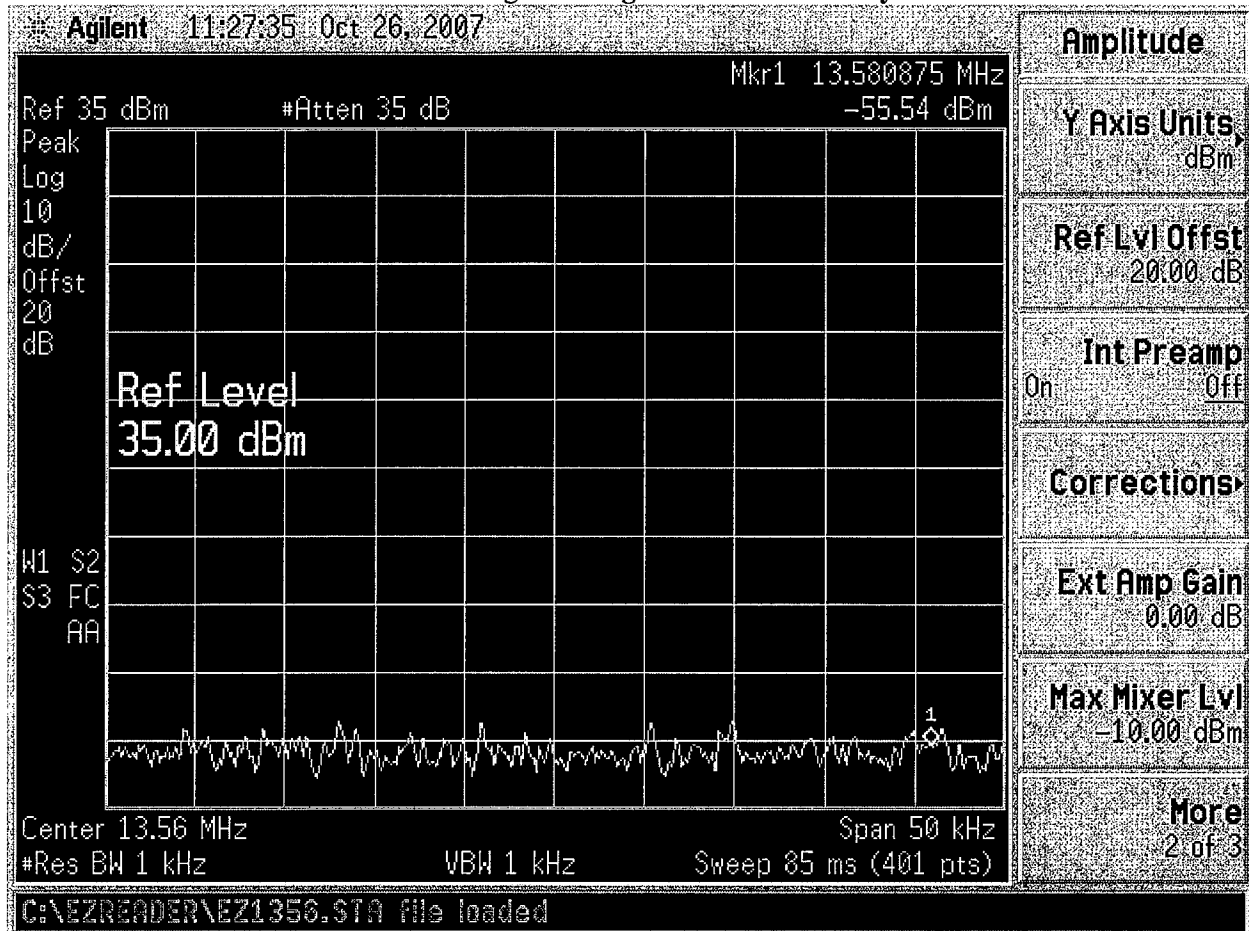

Figure 3
9.3 Screen should look like Figure 3. **Right hand column may differ.**